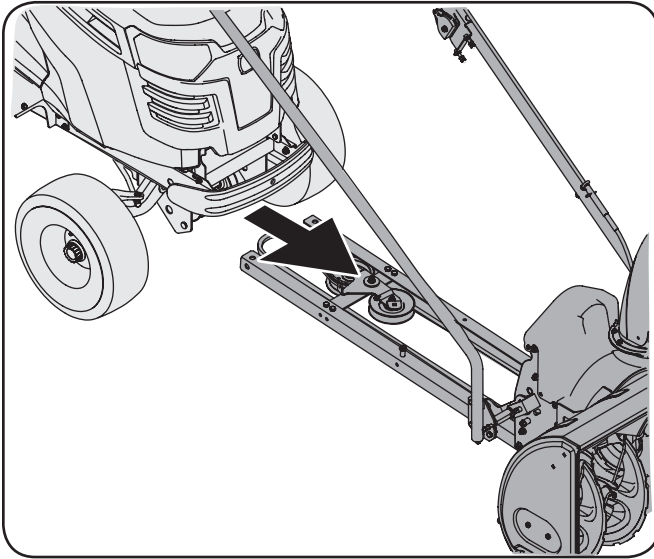

Figure 3-22
1. Roll the tractor into position over the frame rail assembly, aligning the frame rails with the carriage assembly. See Figure 3-22.